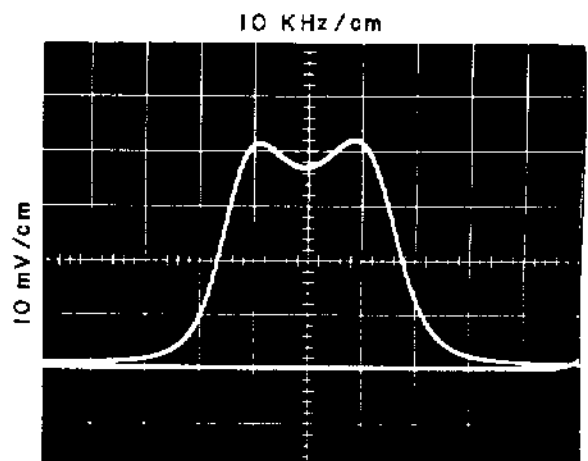

Figure 5-25. Typical Response, 455 kHz Amplifier (Wide Band)
(7) Place the receiver in the widest available IF bandwidth position and increase the sweep width of the sweep generator as necessary to secure a good response. Adjust L5 and L6 for a maximum amplitude symmetrical response about the marker similar to Figure 5-25 (the marker has been deleted for clarity).